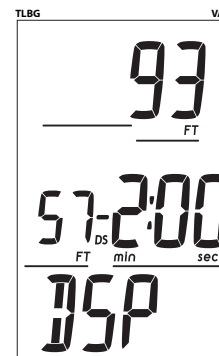

Fig. 56 - DS PREVIEW
DEEP STOP (DS) PREVIEW information includes (Fig. 56):